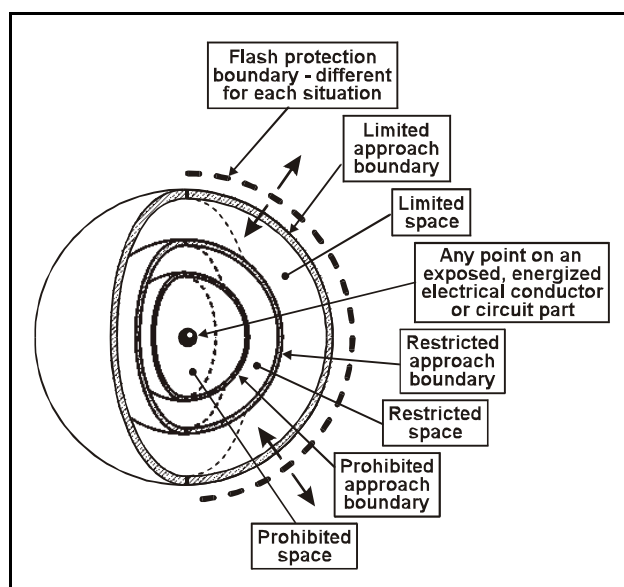

Figure 12-1.—Boundaries.
12.3.1 General. For troubleshooting and testing purposes only, qualified persons using proper test equipment and personal protective equipment must adhere to the boundaries shown in figure 12-1 and specified in table 12-1. For adjusting, tightening, calibrating or any other work, the circuits must be de-energized, or employees must use voltage-rated gloves and voltage-rated insulated tools.